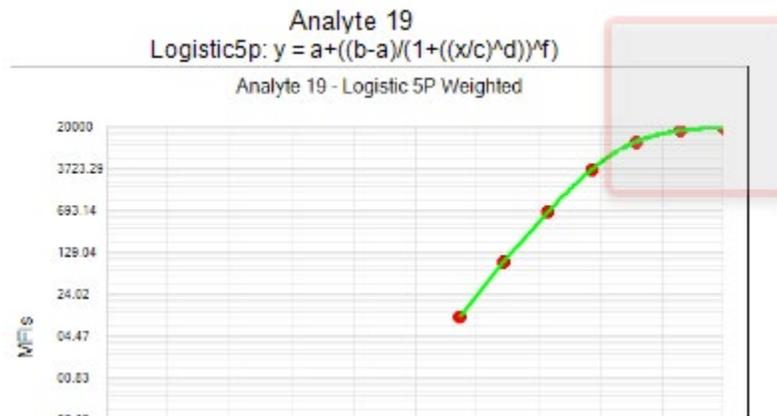

Figure 2. . Significant Loss of Separation (Flattening) between Points
2. Look for separation between the standard points at the top and bottom of the curves. Significant loss of separation (flattening) can effect reproducibility and accuracy of the results. See the example shown in figure 2.